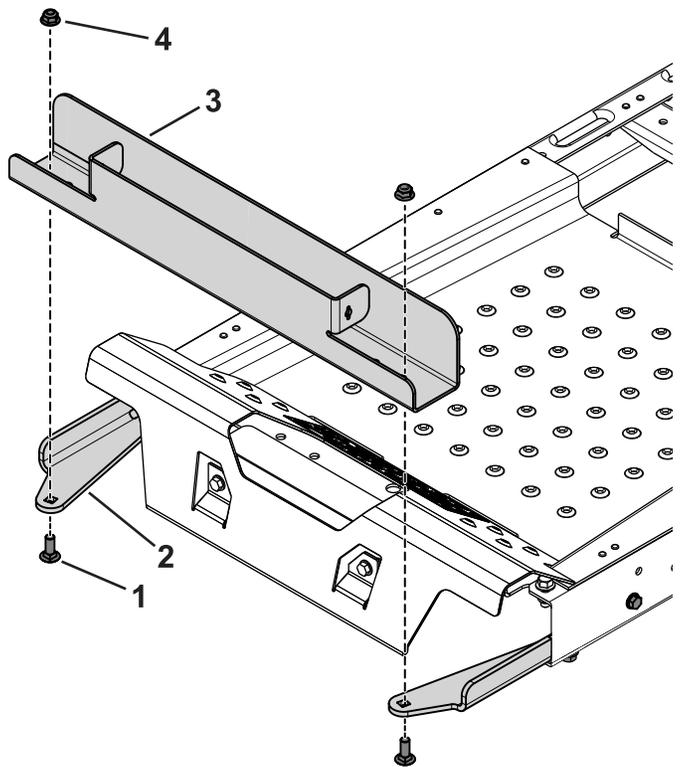

Figure 4
- Use the 2 carriage bolts (3/8 x 1 inch) and flange nuts to secure the weight tray to the mounts (Figure 4).